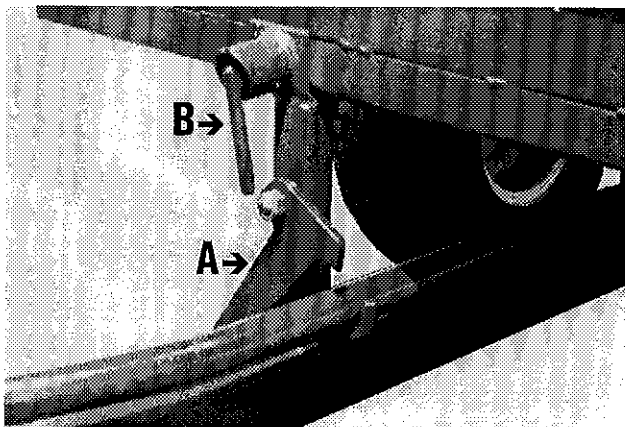
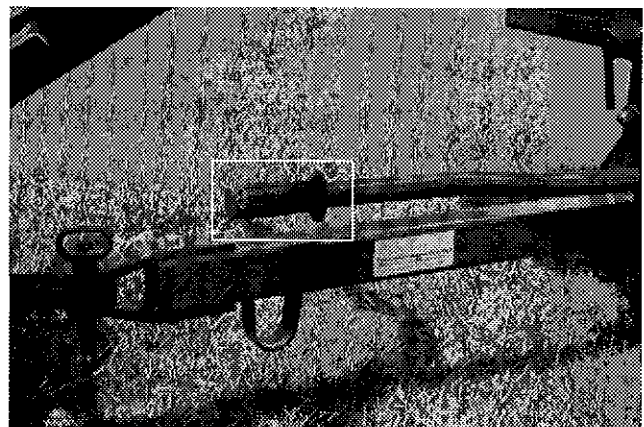

Figure 4
Figure 5
- 9) To dump, place your right hand firmly on the handle (Fig. 5, page 8) pushing down. Release latch (B Fig. 4, page 8), then lift lever (A Fig. 4, page 8), then lift handle to dump. **WARNING!** If loaded with more weight on the back of the trailer, the handle will go up on its own. **STAND CLEAR!**
- 2) The safety lock (A Fig. 4, page 8) is designed to prevent accidental dumping of the trailer even when spring latch (B Fig. 4, page 8) is released. Make sure that it moves freely on its pivot. Release the safety lock only when ready to dump.
- 8) The safety lock (A Fig. 4) is designed to prevent accidental dumping of the trailer even when spring latch (B Fig. 4) is released. Make sure that it moves freely on its pivot. Release the safety lock only when ready to dump.
- 11) To dump, place your right hand firmly on the handle (Fig. 5) pushing down. Release latch (B Fig. 4), then lift lever (A Fig.4), then lift handle to dump. **WARNING!** If loaded with more weight on the back of the trailer, the handle will go up on its own. **STAND CLEAR!**
- 12) After dumping, push handle (Fig. 5) back down into the locked position.
- 13) Return spring latch (B Fig. 4) to locked position.